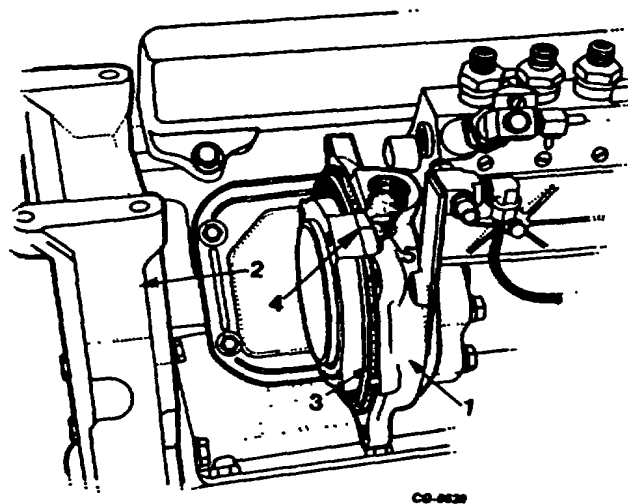

Figure 199. Timing Injection Pump to Engine
- b. Remove sight plug on top of adapter. Rotate drive gear hub until scribed line on hub is aligned with pointer pin (Figure 199).
- c. Rotate engine until piston is at TDC of compression stroke and the engine timing pointer is aligned with the 16 degree mark on the crankshaft pulley. (Figure 199).
- d. Using care not to move drive gear hub, install drive gear on hub (Figure 190). Recheck hub scribed line and pointer pin alignment (Figure 199).